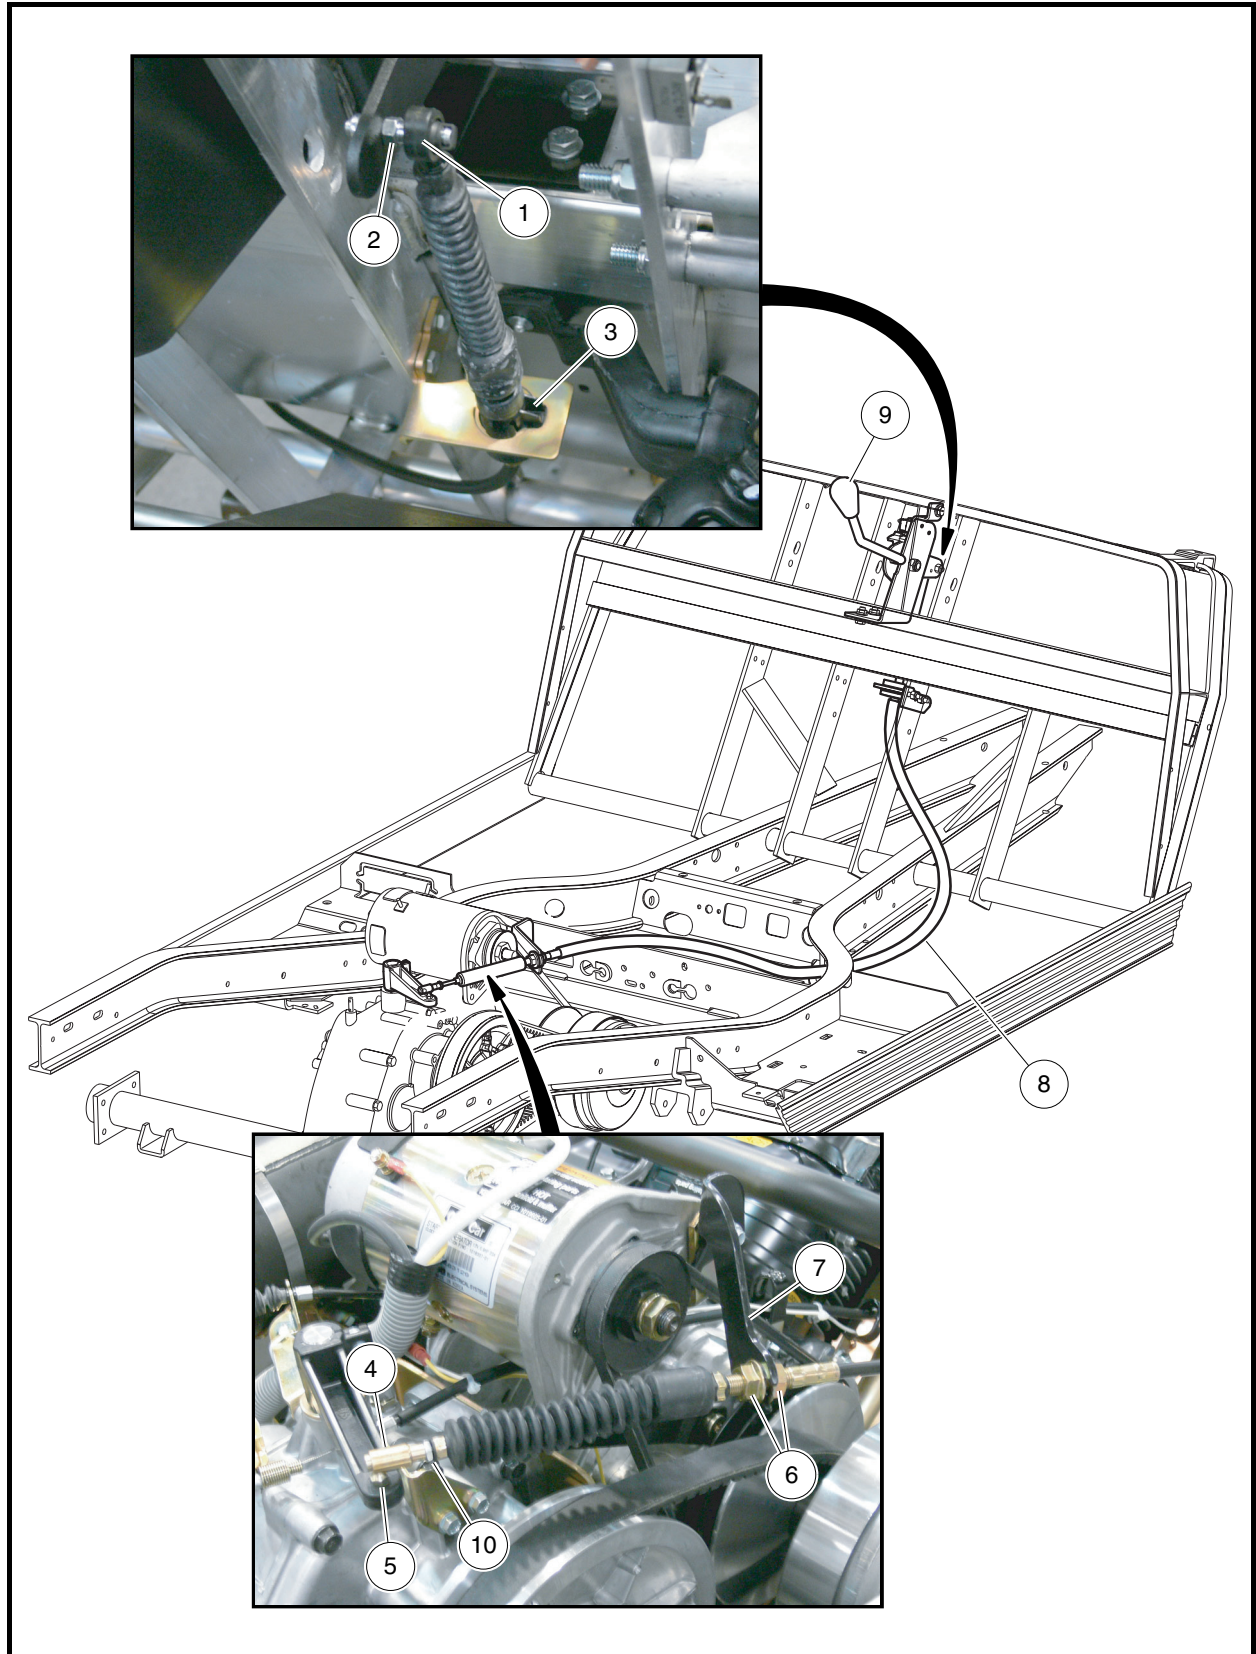
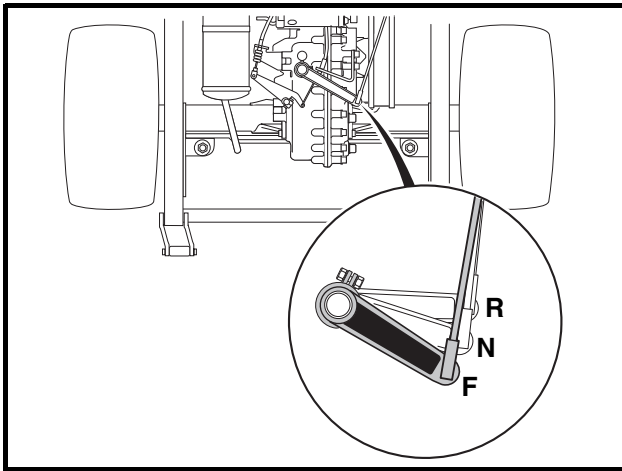

Figure 19-52 Forward/Reverse Shifter Cable
Figure 19-53 Forward/Reverse Shifter Positions
3. Remove the cable end socket (1) from the Forward/Reverse shifter assembly stud (2) (**Figure 19-52, Page 19-20**).
4. Depress and push down on tangs (3) anchoring front of cable jacket to chassis bracket.
5. Remove the ball joint socket (4) from the shifter arm ball stud (5) on the transaxle.
6. Loosen the retaining nuts (6) anchoring rear of cable jacket to bracket (7) at starter/generator.
8. Remove cable (8) from the vehicle.
1. Begin at the Forward/Reverse shifter, and route the cable (8) exactly as it was originally, to the transaxle shifter lever.
2. Secure rear of cable jacket to bracket (7) at starter/generator with a retaining nut (6) on each side of the bracket (**Figure 19-52, Page 19-20**). Tighten nuts to 22 ft-lb (29.8 N·m).
3. Feed front of cable through the chassis bracket and push the cable jacket anchor up into bracket until tangs (3) snap into place.
4. Install the ball joint socket (4) on the shifter arm ball stud (5) on the transaxle.
5. Install the cable end socket (1) on the Forward/Reverse shifter assembly stud (2) (**Figure 19-52, Page 19-20**).
With the shifter lever of the unitized transaxle in the NEUTRAL position (**Figure 19-53, Page 19-21**), the Forward/Reverse handle (9) (**Figure 19-52, Page 19-20**) should align with the N position on the dash. For minor adjustments, the nut (10) may be loosened and the ball joint socket (4) rotated to get the proper adjustment (**Figure 19-52, Page 19-20**). See following **CAUTION**.
For major adjustments, the cable jacket retaining nuts (6) must be loosened and adjusted. When the cable is properly adjusted, with the Forward/Reverse handle (9) (**Figure 19-52, Page 19-20**) in the NEUTRAL position, the shifter arm of the transaxle will also be in the NEUTRAL position (**Figure 19-53, Page 19-21**). Tighten nuts at the transaxle to 22 ft-lb (29.8 N·m).